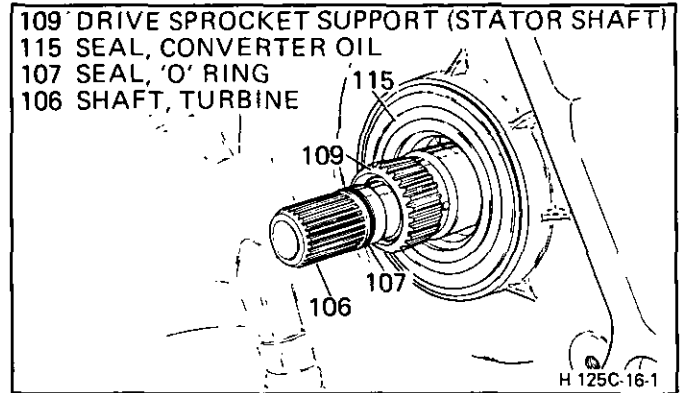

Figure 80 Turbine Shaft "O" Ring Seal
1. Thrust washer (123) onto sprocket (122) and retain with petrolatum
2. Thrust washer (104) onto sprocket (103) and retain with petrolatum
3. Drive (103) and driven (122) sprockets into link assembly (101) - colored guide link up
4. Link assembly (101) and sprockets (103) and (122) into case (112)
5. New "O" ring (107) onto the turbine shaft from the converter side of case (Figure 80)
6. Thrust bearing (121) onto sprocket (122)